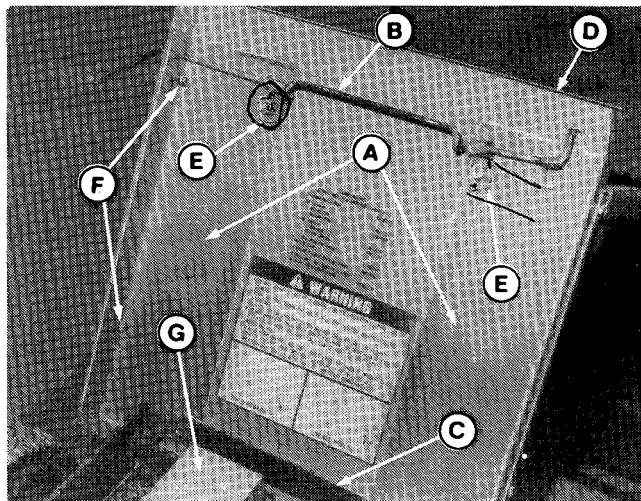
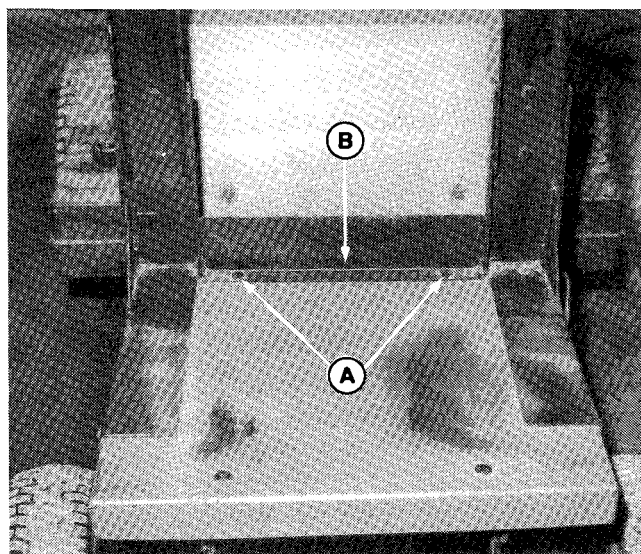

Figure 25.
Figure 26.
1. The hardware for latch (B, figure 25) and the hinge (C) are used to secure the angle brackets (A) to the bottom of platform (D). Also the two front bolts (A, figure 26) go through the upper bracket (B). Proceed as follows to install the angle brackets and upper bracket to the platform.
- a. Remove the platform from the hinge by removing the hardware. Remove the latch (B, figure 25) from the platform.
- b. Use this existing hardware to attach bracket (B, figure 26), angle brackets (A, figure 25), and latch (B) to the platform. Use the same hardware, except add two supplied 5/16" washers (E, figure 25) (against angle brackets).
- c. Insert the four supplied 1/4-20 x 3/4" capscrews (F, figure 25) through angle bracket, platform, and upper bracket. Install the 1/4" lockwasher and nuts onto the capscrews.
- d. Attach the platform (D, figure 25) to the hinge (C) with the original hardware, and two new one inch long capscrews.